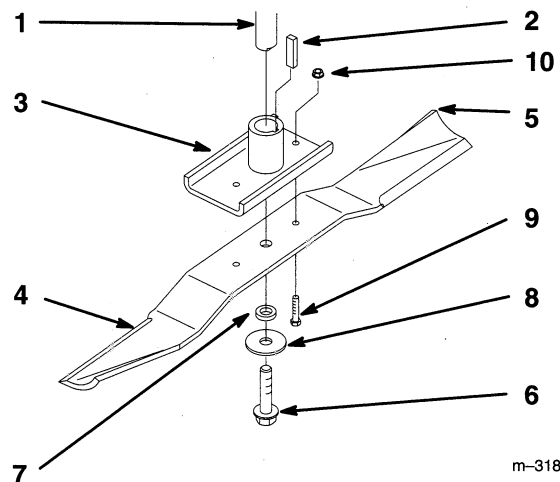
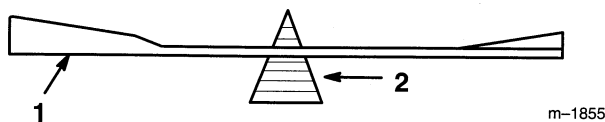

Figure 24
Figure 26
Hold the blade end using a rag or thickly-padded glove. Remove the retainer bolt with its washer and spacer, and the blade bolts and locknuts from the blade retainer (Fig. 24).
1. Install the blade onto the blade retainer and secure with retainer bolt, spacer and washer (Fig. 24).
2. Install the blade bolts and locknuts (Fig. 24).
2. Check the balance of the blade by putting it on a blade balancer (Fig. 26). If the blade stays in a horizontal position, the blade is balanced and can be used. If the blade is not balanced, file some metal off the end of the sail area only (Fig. 24). Repeat this procedure until the blade is balanced.